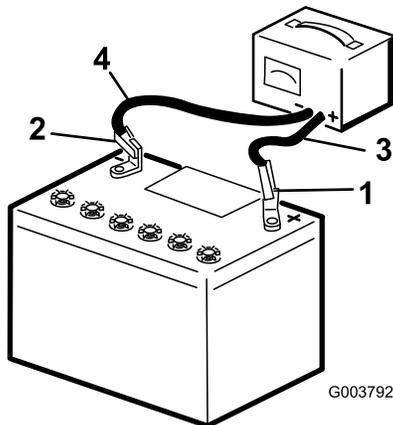

Figure 3
2. Connect a charger to the battery (Figure 3) and charge it for a minimum of 1 hour at 6 to 10 amps. Do not overcharge the battery.
3. When the battery is fully charged, unplug the charger from the electrical outlet, then disconnect the charger leads from the battery posts (Figure 3).